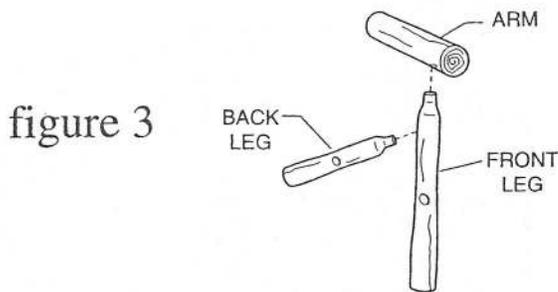

figure 3
STEP 3 Make a right leg set and a left leg set by inserting dowel end of back leg into angled hole of front leg. The drilled holes on each Leg should face the same direction as shown in figure 3.